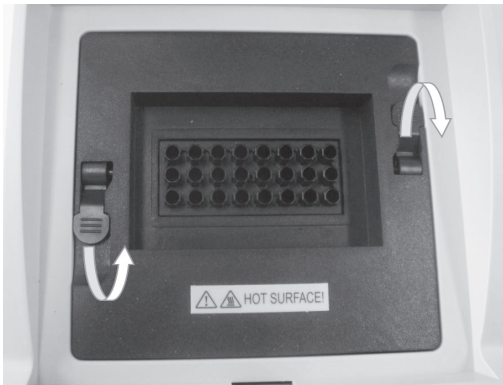

Fig.20
2.5.1 Pull the handle and put it to the center. Take out the block as Fig.20